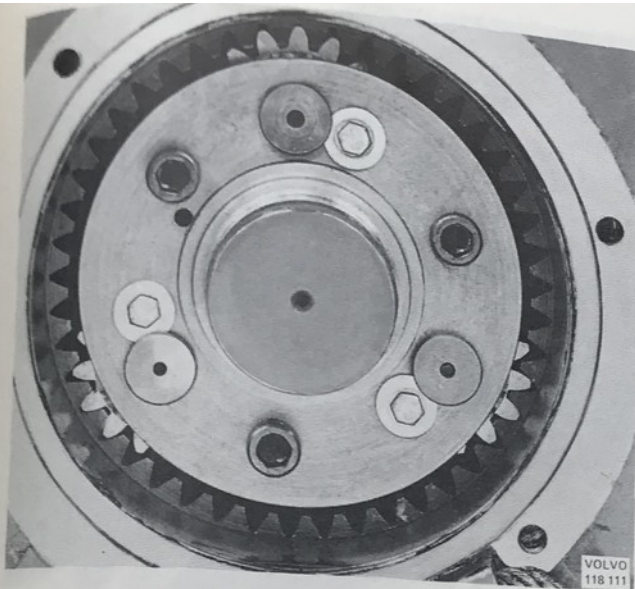

Fig. 92-46. Cover for the planetary gears
4. Remove the Allen bolts (10mm = 0.4 in.) holding the cover for the planetary gears. Remove the bolts and the lock washers holding the shafts, see Fig. 92-46.